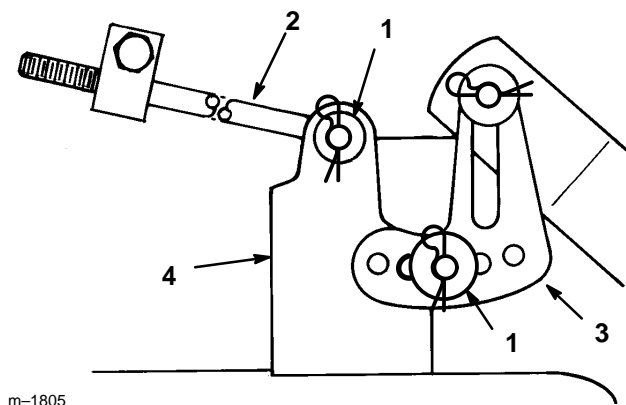

Figure 39
10. Remove the hair pin cotter and washer from the end of the long rod (Fig. 39). Slide the rod out of the mower mount.
11. Remove the hair pin cotter and washer at the mower leveling bracket (Fig. 39). Slide the bracket off the mounting pin. Re-install the washer and hairpin cotter for storage.